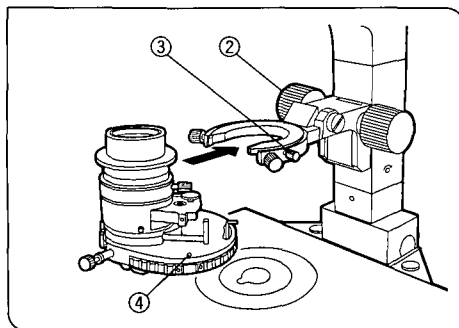

Fig. 35
1. Raise the condenser height adjustment knob ② to its upper limit position. (Fig. 35)
2. Loosen the condenser clamping knob ③. (Fig. 35)
4. Tighten the condenser clamping knob. (Fig. 35)
- Affix the index sticker provided with the turret insert engaged into the optical axis at the index position ④ for IX use on the rear side of the U-UCDB. (Fig. 35)